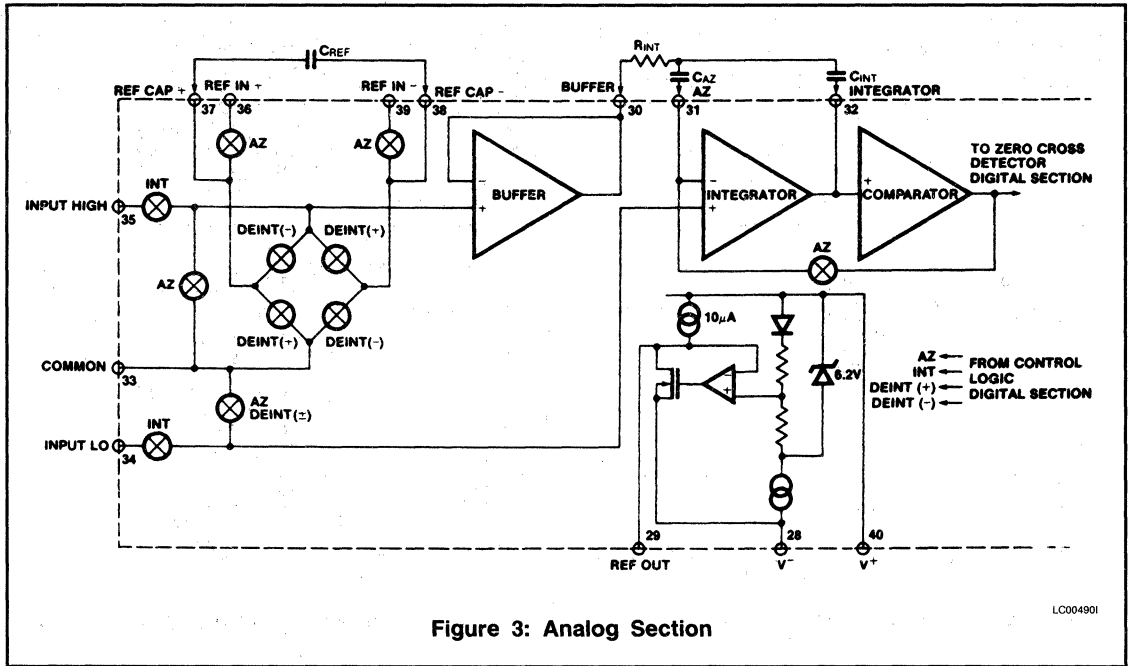
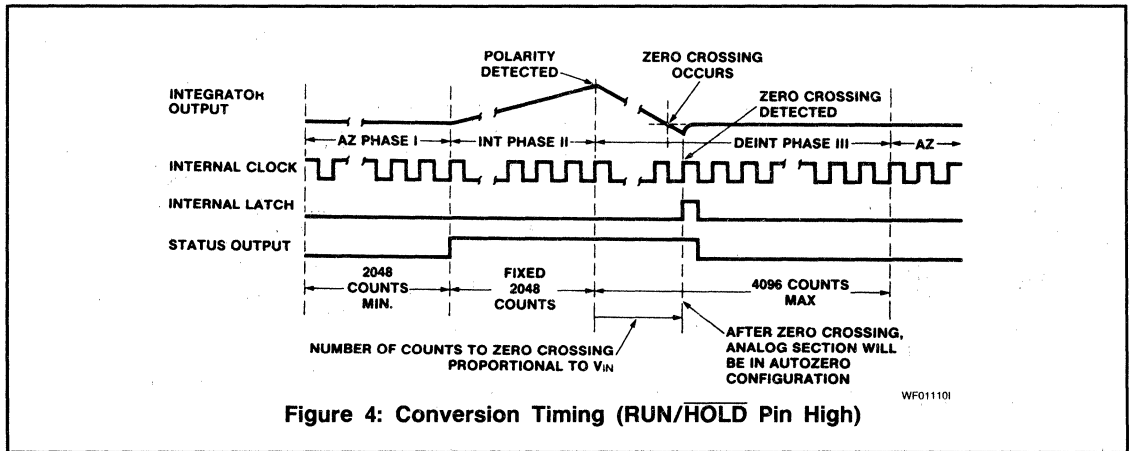

Figure 3: Analog Section
Figure 4: Conversion Timing (RUN/HOLD Pin High)
Figure 3 shows the equivalent circuit of the Analog Section of the ICL7109. When the RUN/HOLD input is left open or connected to  $V^+$ , the circuit will perform conversions at a rate determined by the clock frequency (8192 clock periods per cycle). Each measurement cycle is divided into three phases as shown in Figure 4. They are (1) Auto-Zero (AZ), (2) Signal Integrate (INT) and (3) Deintegrate (DE).
During a conversion cycle, the STATUS output goes high at the beginning of Signal Integrate (Phase II), and goes low one-half clock period after new data from the conversion has been stored in the output latches. See Figure 4 for details of this timing. This signal may be used as a "data valid" flag (data never changes while STATUS is low) to drive interrupts, or for monitoring the status of the converter.
When the RUN/HOLD input is high, or left open, the circuit will continuously perform conversion cycles, updating the output latches after zero crossing during the Deintegrate (Phase III) portion of the conversion cycle (See Figure 4). In this mode of operation, the conversion cycle will be performed in 8192 clock periods, regardless of the resulting value.